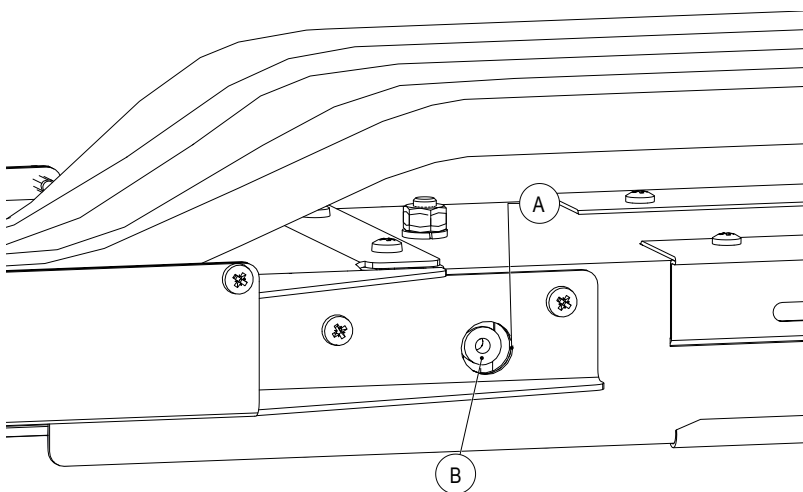
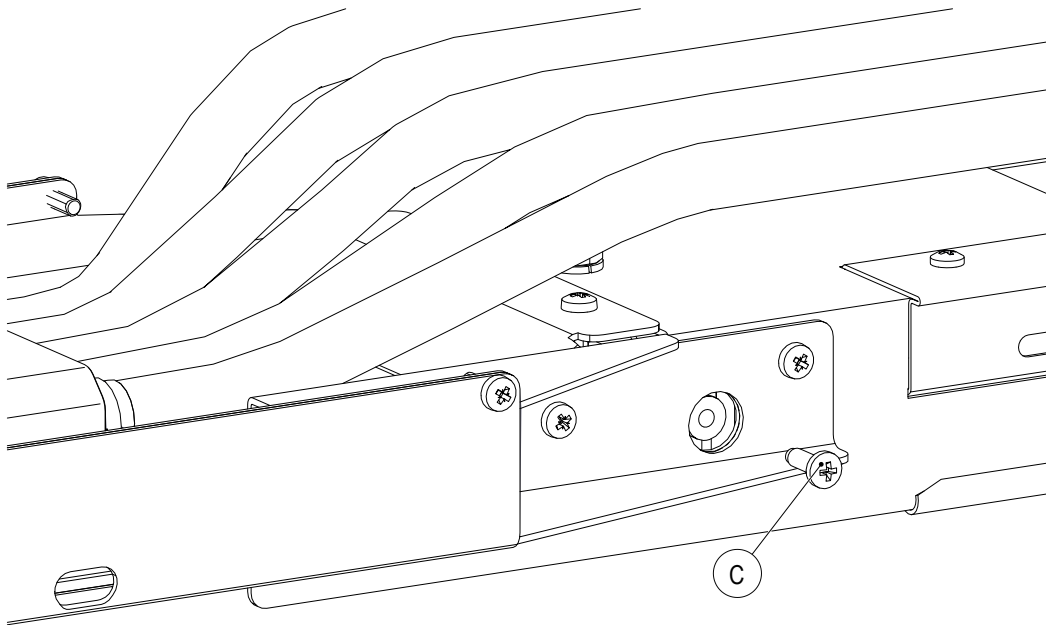

Fig. 72: Pre-drill for fillister head screw
Fig. 73: Tighten fillister head screw (C)
1. The insulating profile must be drilled out for the fillister head screw (C), which ensures the fastening of the conductor rail system. For this purpose, drill through the transverse bore of the anchor point (B) and the first insulating profile wall (D) with a drill $\varnothing 3.2$ mm. The conductor bar must not be damaged. The fastening frame has an extra hole (A) for this purpose, so that the conductor rails can be drilled in the hung state (see Fig. 72 and Fig. 73).